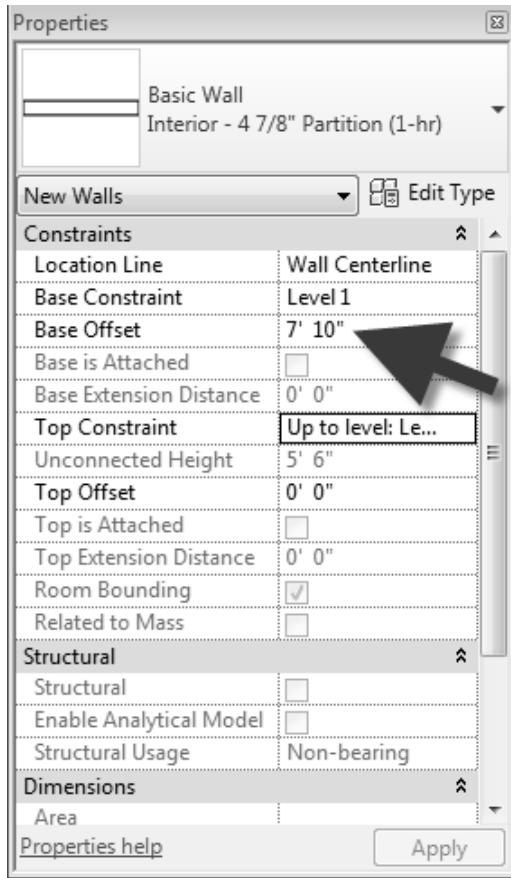

FIGURE 7-4.11 Bulkhead (wall) properties
29. Set the Top Constraint to: **Up to level: Level 2** (Figure 7-4.11).